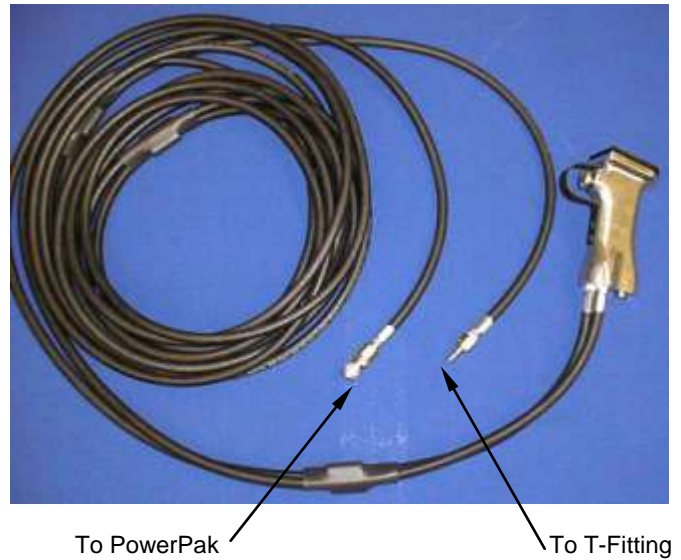

Figure 3.1-2
10. Connect the female air quick disconnect of the trigger assembly hose to the male fitting of the FTI PowerPak (see Figure 3.1-2).
11. Connect the male air quick disconnect into the female coupler at the T-fitting of the air-hydraulic extension hose assembly (see Figure 3.1-2).
12. Connect the female quick disconnect of a 1/2-inch (12.7mm) ID shop air line onto the male air inlet of the PowerPak (see Figure 3.1-2).